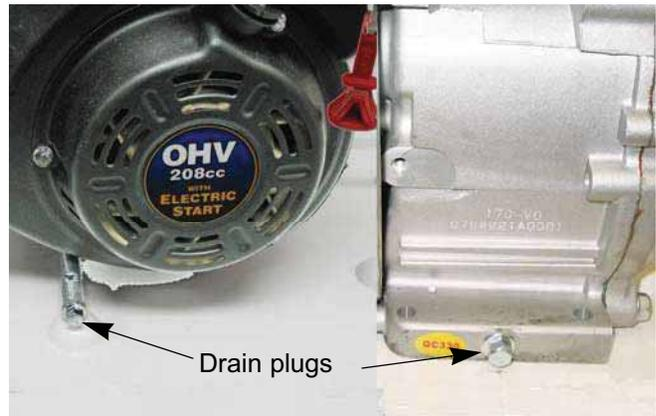

Figure 1.8
- B. Remove the drain plug using a 10 mm wrench. See Figure 1.8.